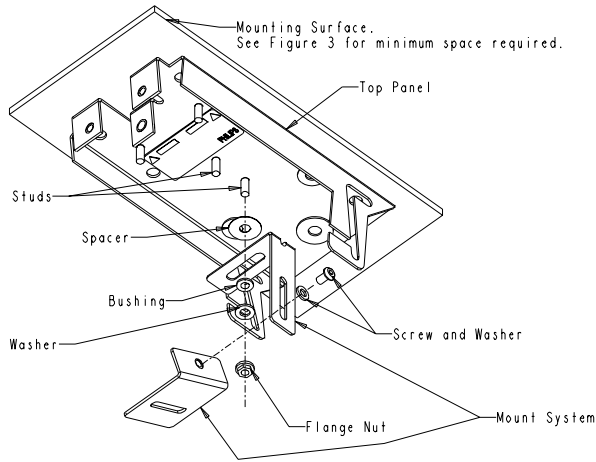

Figure 6: Installing the Mount System
2. Reattach the camera mounting system to the top panel using the same hardware that was removed in step 5 of section 5.1. Use either of the two studs near the center of the panel, depending on the camera / lens size. **See figures 6 and 7.**